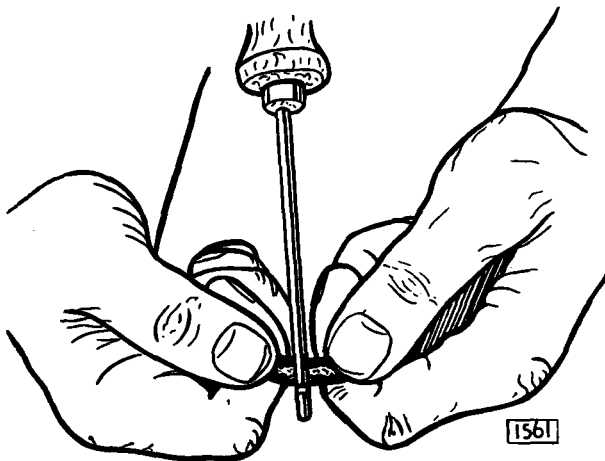

Fig. 25. Threading rubber plug into special needle.
3. Select a suitable plug according to the size of the puncturing object and stretch and roll it into the eye of the needle leaving about $\frac{1}{4}$ " (6.35 mm.) of plug on one side of the needle. (Fig. 25.)